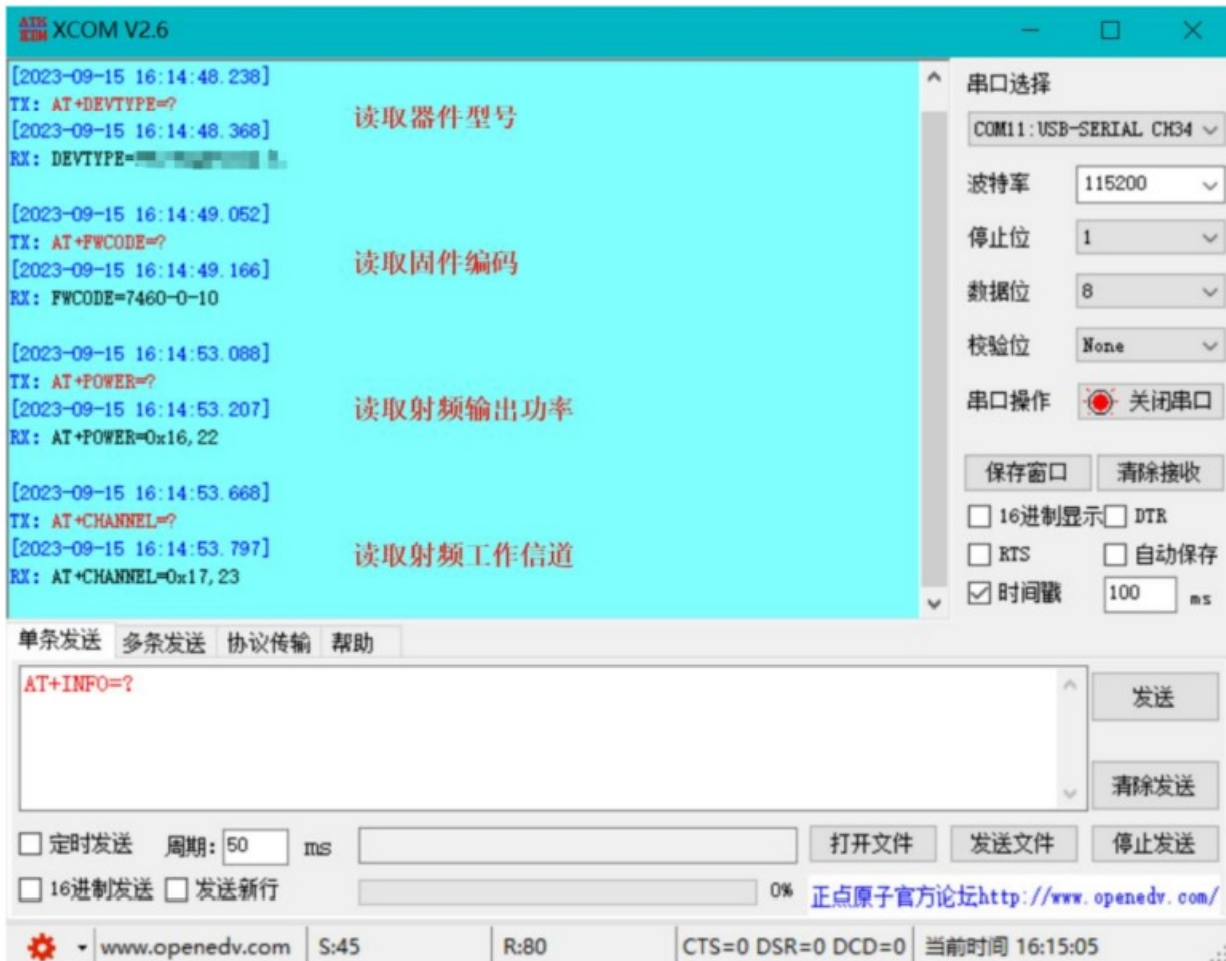

Figure 8.1.2 MCU obtains parameters
- If it is difficult to parse it using MCU, the correct operation of MCU should be obtained using separate AT commands, as shown in Figure 8.1.2 .